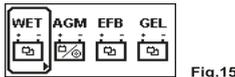

Fig.15
8. Next it will prompt the user to select the types of batteries (Fig.15).